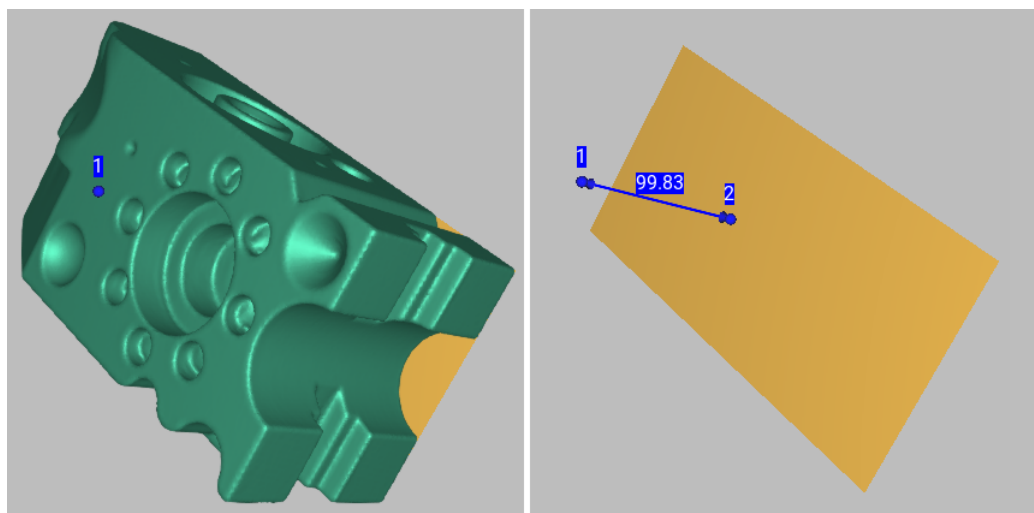

Figure 151: Thickness measurement: selecting a point on the side opposite to the plane (left), clicking the plane to determine distance to it (right).
1. In the *Construct* panel, build a plane (shown in orange in Figure 151) that fits the side surface of the model (find out in Constructing CAD Primitives how to do this).
4. Select any point on the side of the model opposite to the plane (Point 1 in Figure 151, left).
Artec Studio will automatically construct a perpendicular to the plane, determine the point of their intersection (Point 2 in Figure 151, right), and calculate the distance between the two points. This distance gives you the thickness of the model.